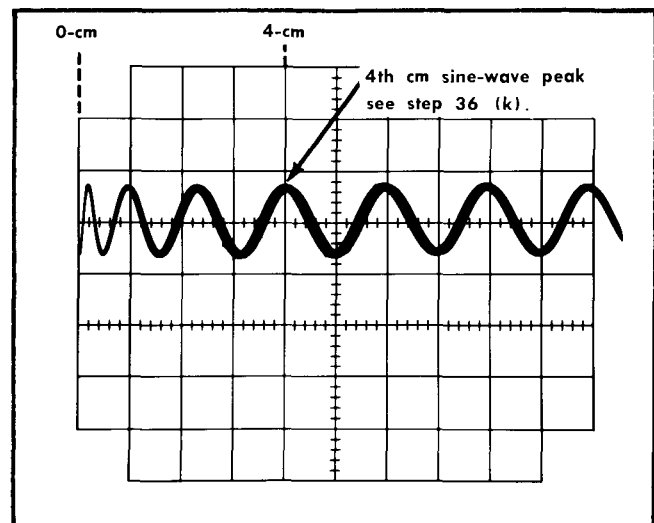

Fig. 5-6. Typical display, high-speed sweep timing, showing peak of a sine wave at the 4-cm graticule line, see step 36 (k).
k. Position the display so the Upper Beam waveform starts at the 0-cm graticule line. (Turn up the INTENSITY control temporarily to check that the waveform is properly positioned. See Fig. 5-6.)